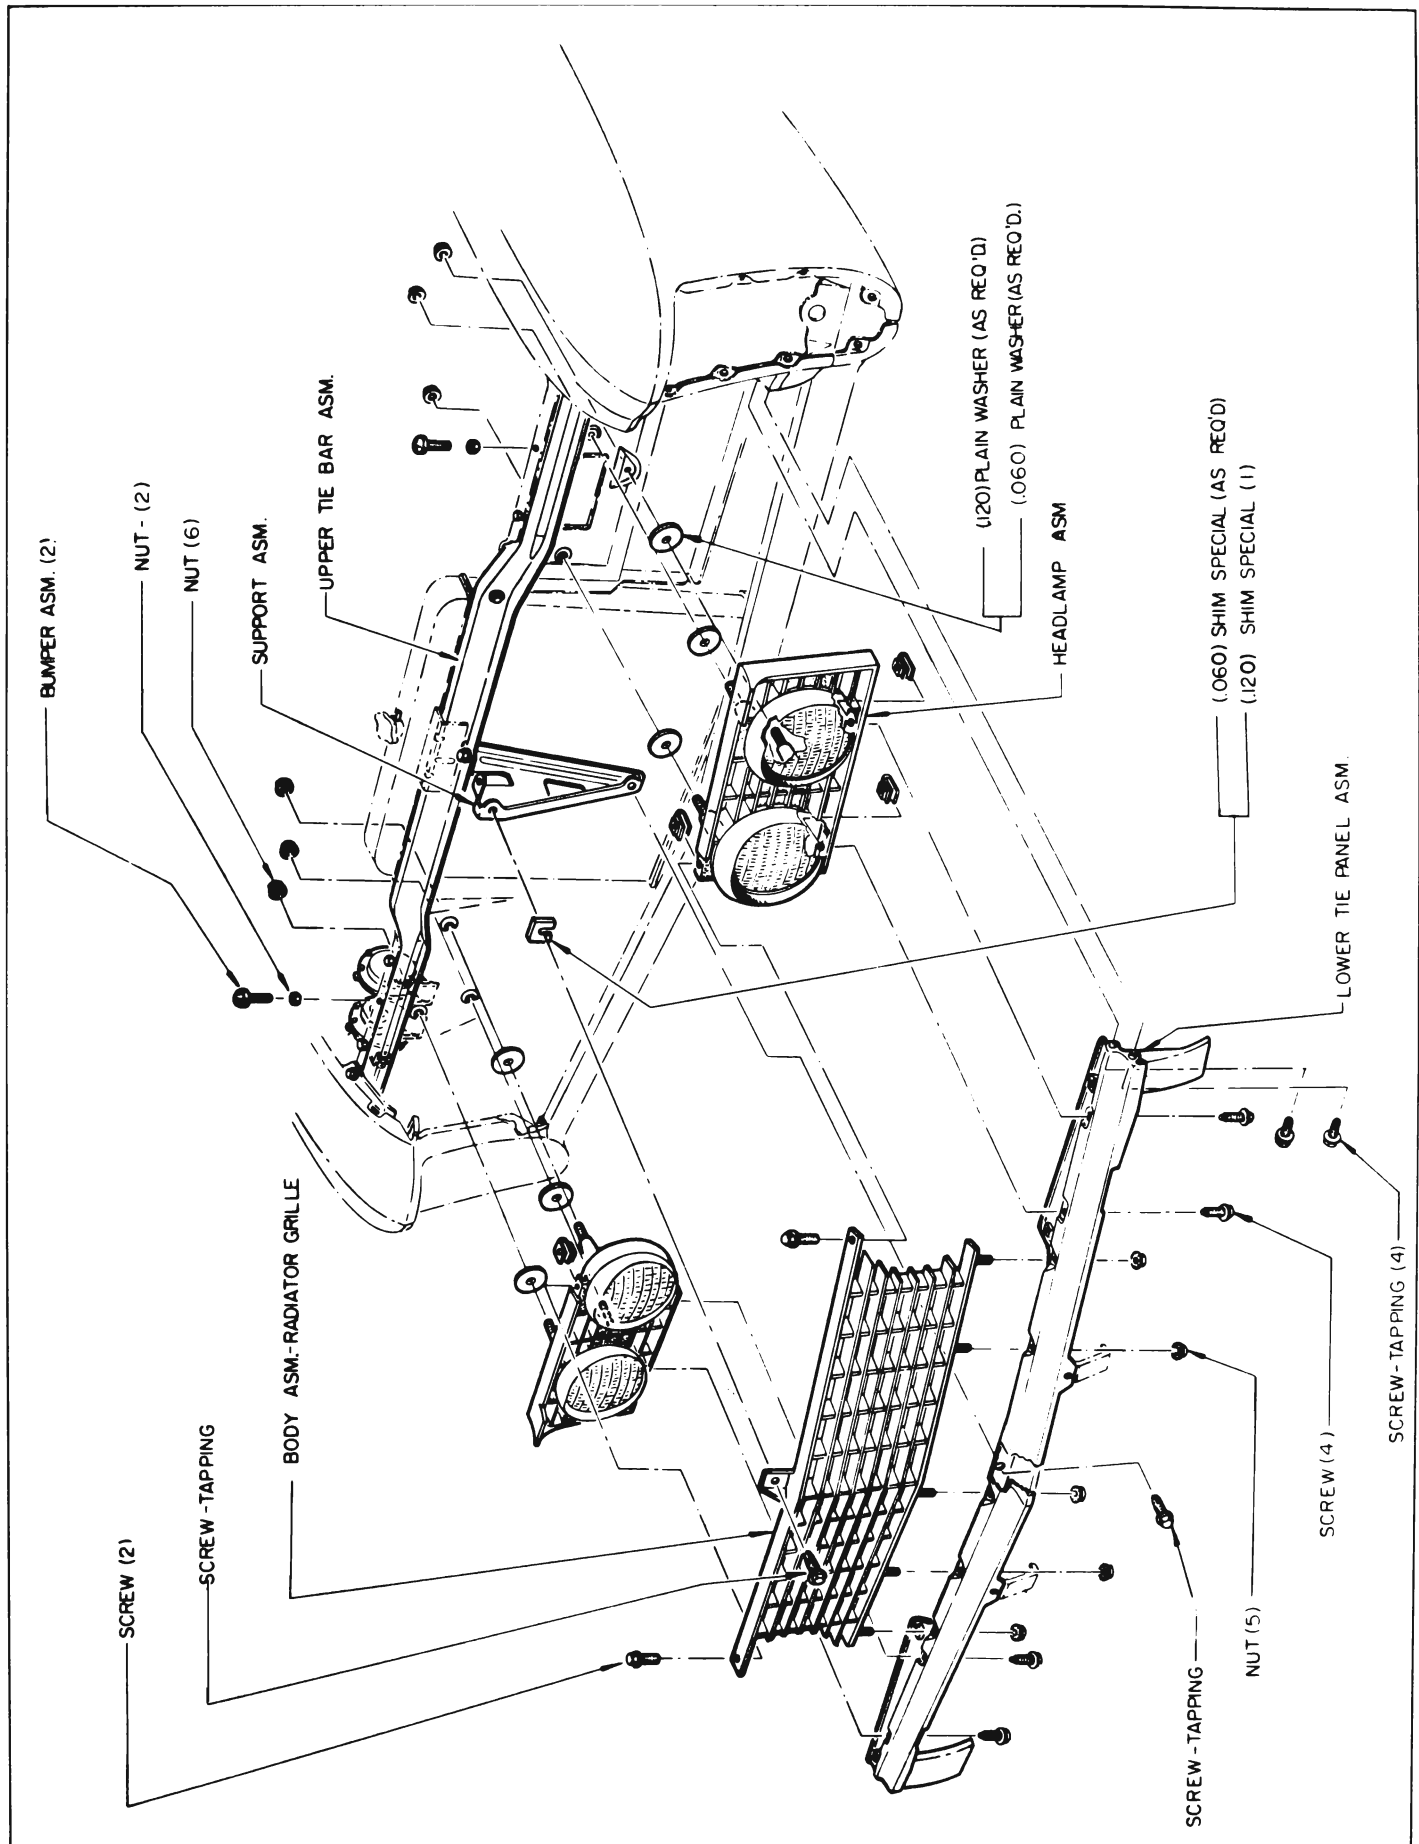

Figure 12-12—Radiator Grille, Headlamps & Front End Installation—4700 Series
3. **Front Height.** This is determined by two adjustable bumpers. See Figure 12-12 and 13. However, the front of the hood may not contact these bumpers unless the hood latch is correctly adjusted as described in Step 4.